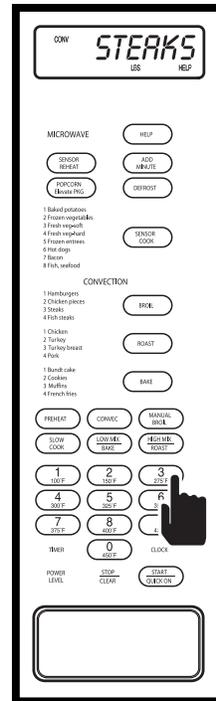

Figure 3-95.
2. Select food number. The four choices are listed to left of the BROIL key. Press the number 3 key, “STEAKS - USE - LOW - RACK - ENTER - WEIGHT ” will flash on display. (See Figure 3-95)